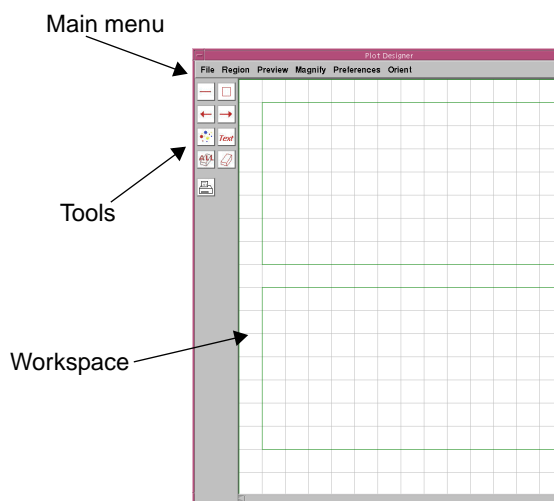

Figure 79. Plot Designer Window
1. Start the Plot Designer program by entering `jdesign` in the VNMR input window. The window shown in Figure 79 appears.